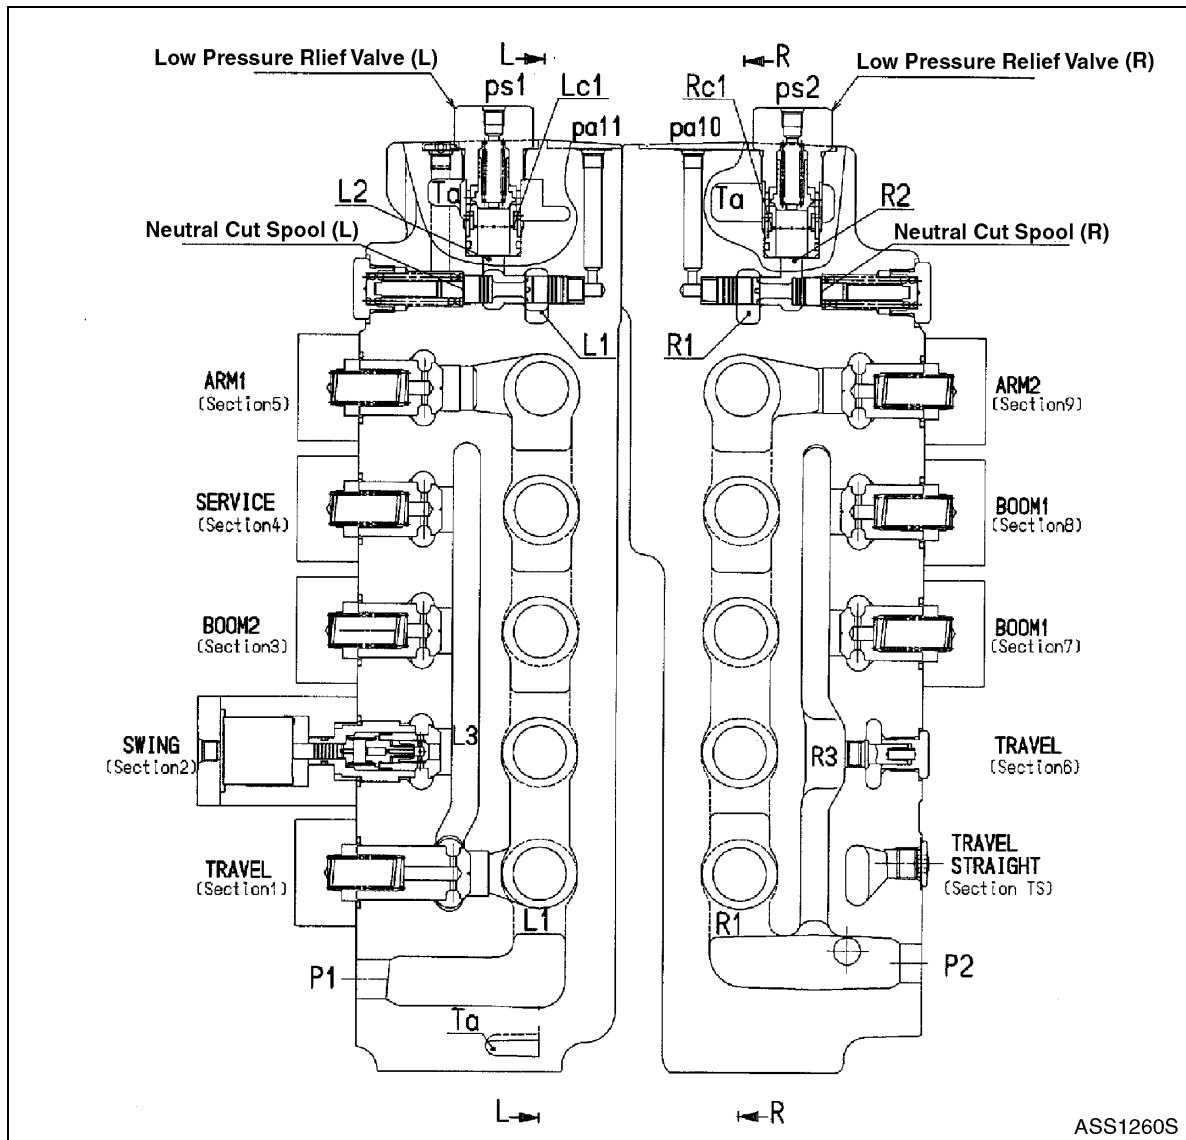

Figure 1
Neutral Passage (Figure 1 and Figure 2)
1. When spare spool is shifted by increasing pressure of spare (section 4) pilot port (Pb4 (Pa4)), neutral passage (L1) is closed. Oil supplied to port (P1) flows through, parallel passage (L3), load check valve (S4-1), passage (S4-2), and spool, into port (B4 (A4)). When neutral-cut spool (R) is shifted by increasing pressure of port (pa10) (Figure 1) also, oil supplied from port (P2) flows through passage (11), and poppet (S4-3), it then joins with passage (S4-2). Return oil returns through port (A4 (B4)) and spool to tank passage (Ta).
1. When bucket spool is shifted by increasing pressure of bucket (section 8) pilot port (Pb8 (Pa8)), neutral passage (R1) is closed. Oil supplied to port (P2), flows through, parallel passage (R3), load check valve (S8-1), passage (S8-2), and spool, into port (B8 (A8)). When neutral-cut spool (L) is shifted by increasing pressure of port (Pa11) (Figure 1) also, oil supplied from port (P1) flows through passage (7) and poppet (S8-3), it then joins with passage (S8-2). Return oil returns through port (A8 (B8)) and spool to tank passage (Ta).